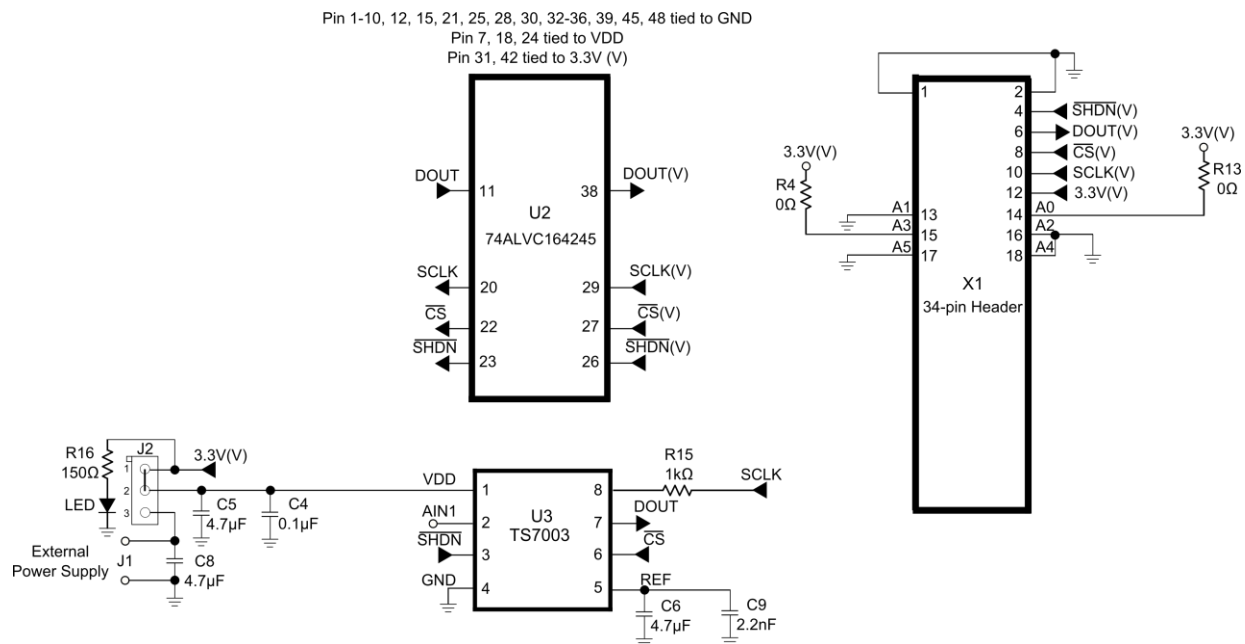

Figure 5. TS7003 Evaluation Board Circuit
A separate power supply can be used to power the TS7003 from +2.7V to +3.6V. If evaluating the TS7003 demo board without the viperboard, a single power supply is needed. A BNC connector is available for the input of the TS7003, AIN, and it is recommended to use a low-noise signal generator in order to acquire optimal SNR and THD results. Refer to Table 1. Figure 5 shows the TS7003 demo board schematic, Figure 2 shows a picture of the TS7003 demo board and Figure 1 shows a picture of the TS7003 demo board with the viperboard connected.
In order to evaluate the TS7003, jumper J2 is to be set to position 1-2. The default configuration for J2 is 1-2. Refer to Figure 5 and Table 1. The default configuration on the board is for $V_{DD} = +3.3V$. The following steps are to be performed:
- 1) Set the voltage of the power supply between +2.7V and +3.6V and turn it off. Connect the positive terminal of the DC power supply to pin 12 labeled as 3.3V on the 34-pin header, X1, and the ground terminal to pin 2 labeled as GND. Refer to Figure 5.
- 3) To measure the supply current of the TS7003, place jumper J2 to position 2-3. Then, apply an external power supply to J1. An ammeter can now be connected in series with the power supply for a supply current measurement of the TS7003. The supply current should be approximately 950 μ A. Please refer to Figure 5 and table 1.